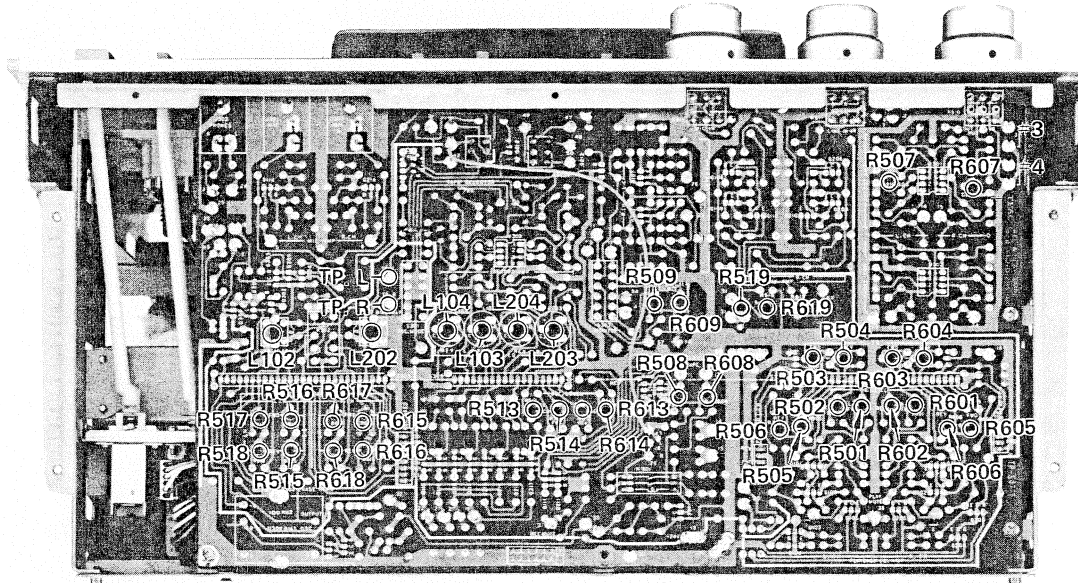

**Fig. 2-19 Pinch roller/capstan alignment**
8. Loosen the two screws holding the reinforcement plate, then adjust using the correction jig (TEAC P/N 5736000100) as shown in Fig. 2-19.